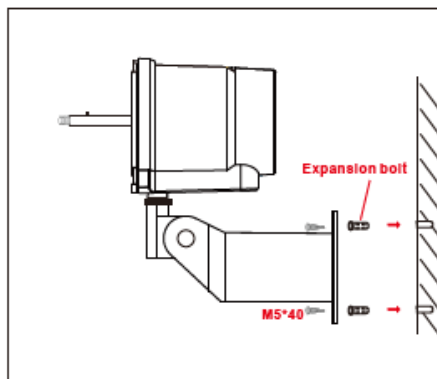

Figure2
- c . Align the four holes on the DC motor frame to the four holes on the wall, then insert the expansion bolt into the four holes and insert the four M5\*40 screws into the holes and tighten securely (figure 2) .